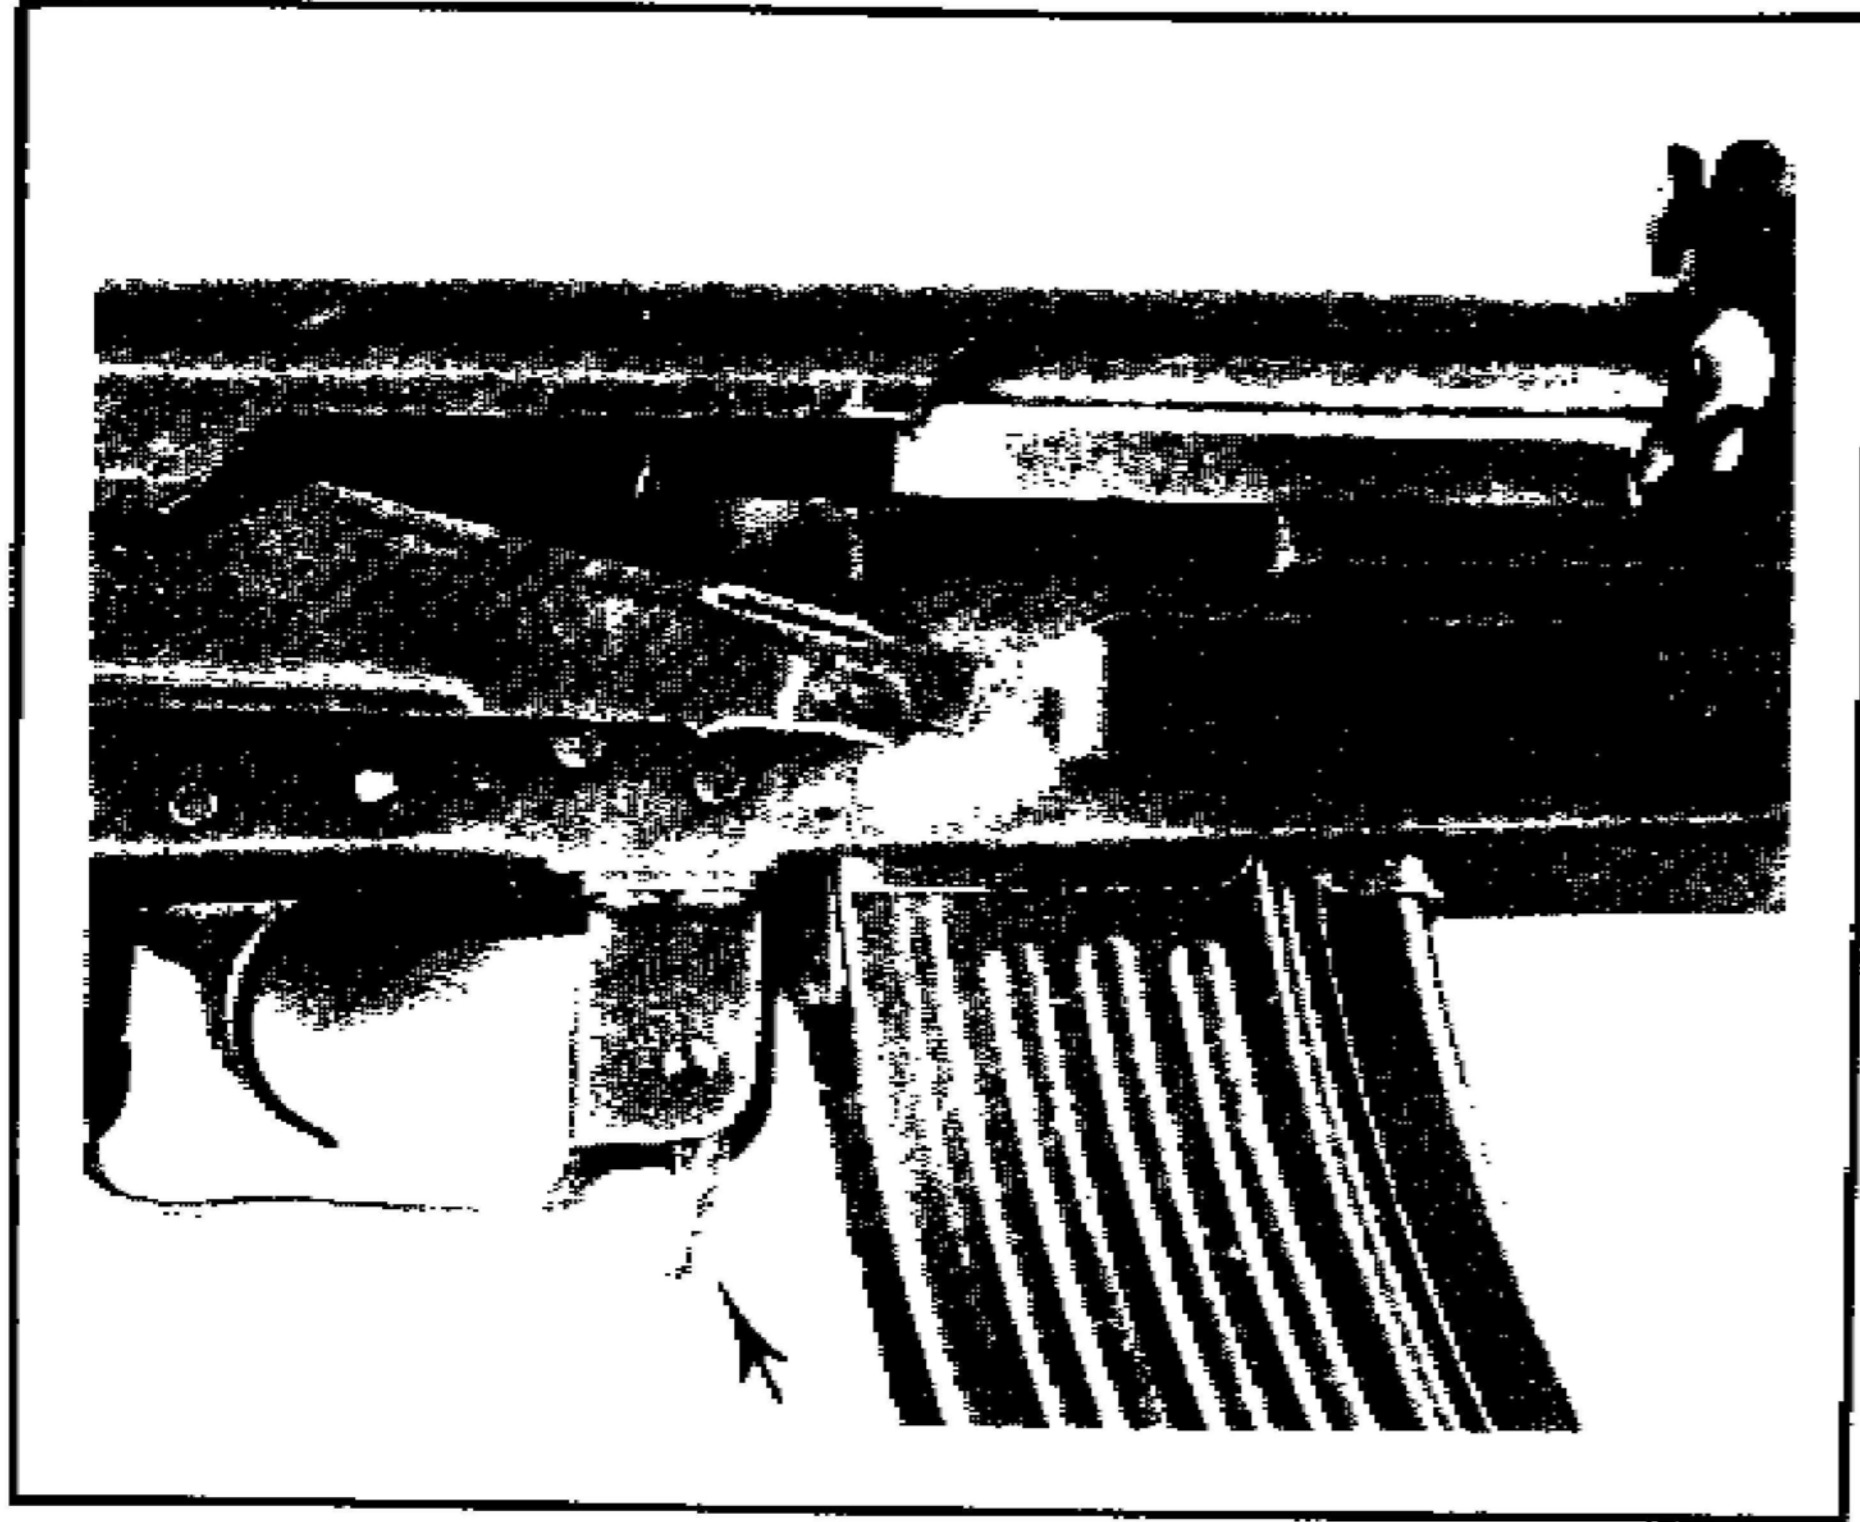
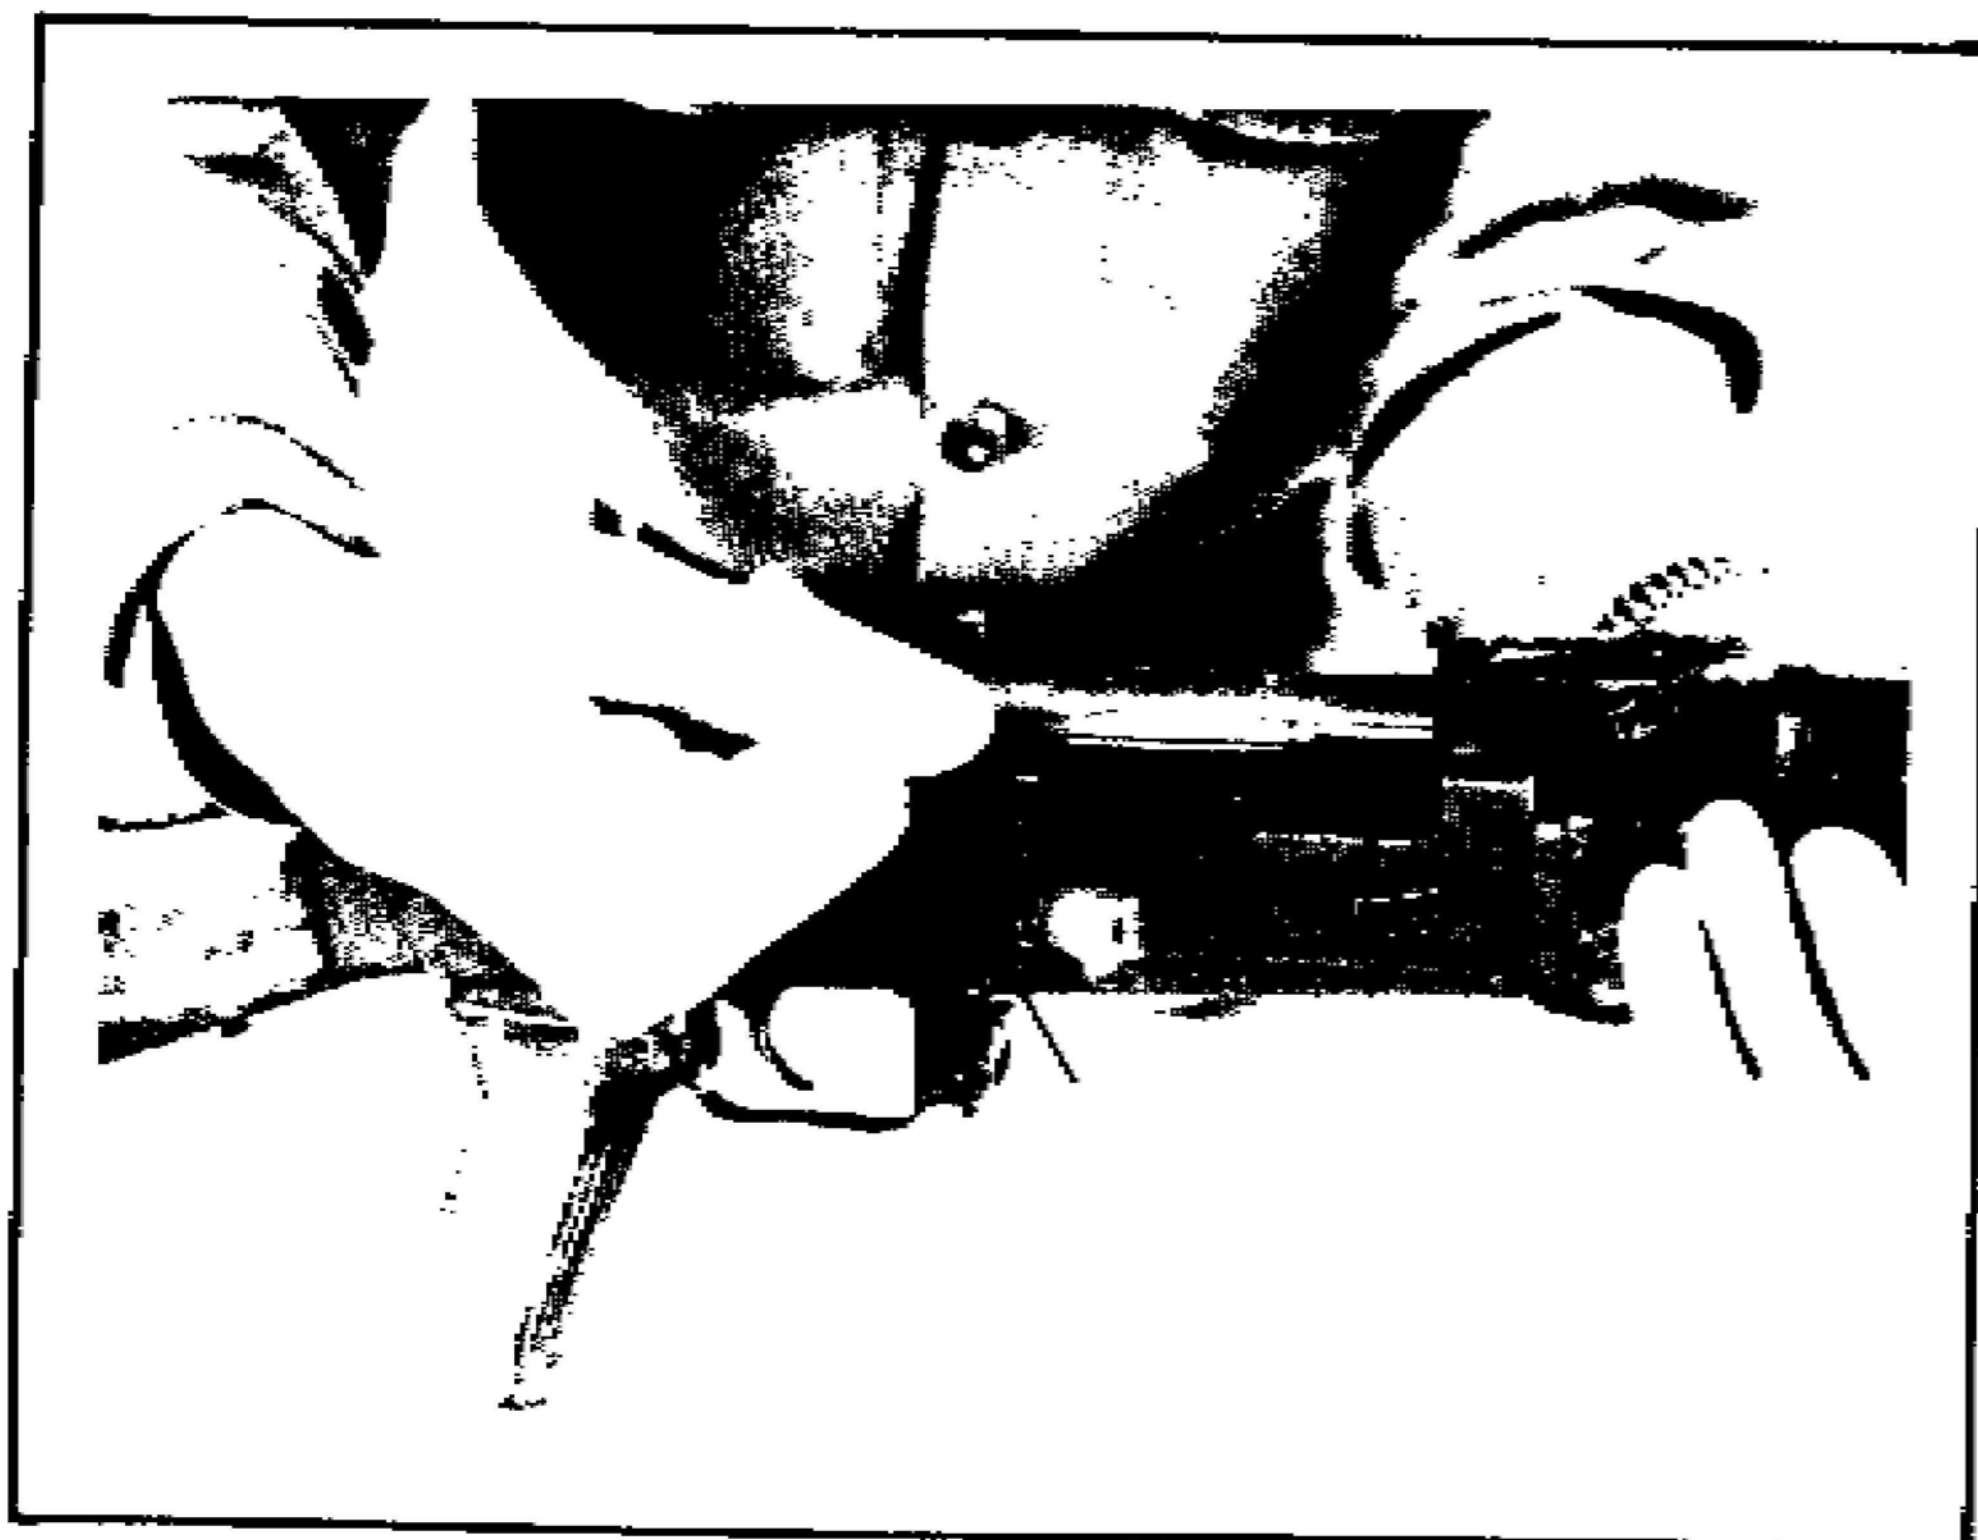

FIGURE 15. MAGAZINE CATCH
FIGURE 16. OPERATING HANDLE
A. Pull charging handle, shown on page 11 figure 16, fully to the rear and release.
**Unloading:** Remove the magazine by pressing the magazine catch (fig 15) toward the magazine; then swing the magazine forward and out of the receiver. Pull the operating handle fully to the rear, inspect the chamber and receiver. If no cartridge is present, release the operating handle and pull the trigger (fig 16).